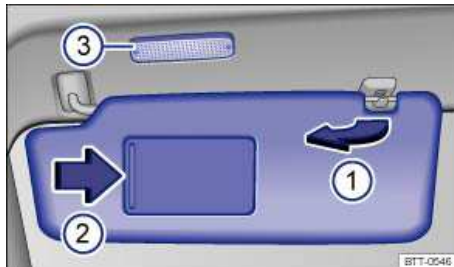

Fig. 88 Sun visor.
- Lift it out of the retaining clip and swivel it over toward the door ⇒ fig. 88 \(1\).